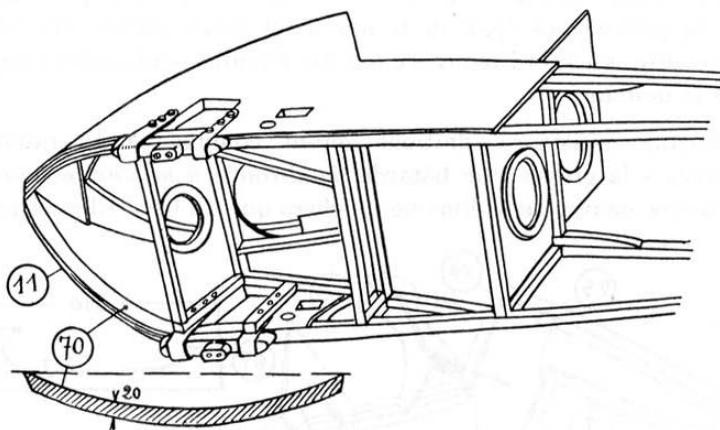
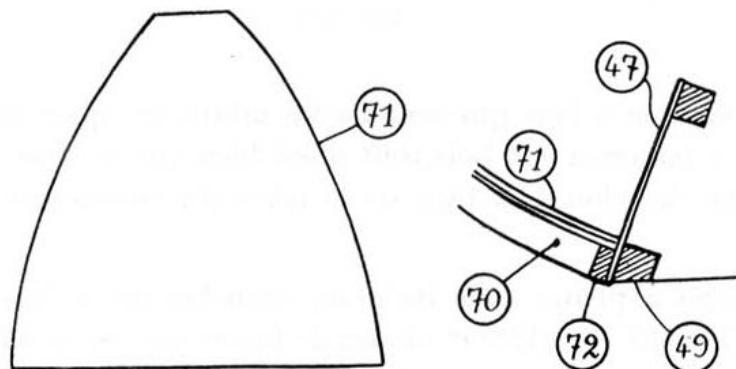

Figure 3.13: Flanges to support cabin floor
Figure 3.14: Fitting the cabin floor
Cut out a strip ⑩ (fig. 3.13), 25mm wide and fitted to the edge ⑪. Copy it 14 times in 3mm plywood. Seven thicknesses glued one after another inside each side ⑪ form a flange curved in both directions, on which you can nail one after the other two 3mm plywood pieces ⑫ (fig. 3.14), layered and glued, which will serve as the cabin floor.